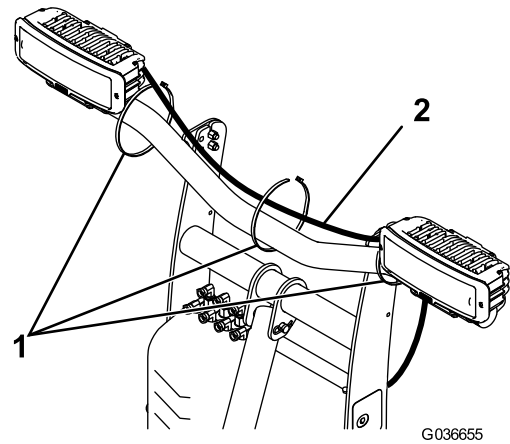

Figure 11
6. Insert the headlight connectors on the wire harness to the back of the headlight housing (Figure 11).
7. Secure the short wire harness to the light bar using 3 cable ties as shown in Figure 11.